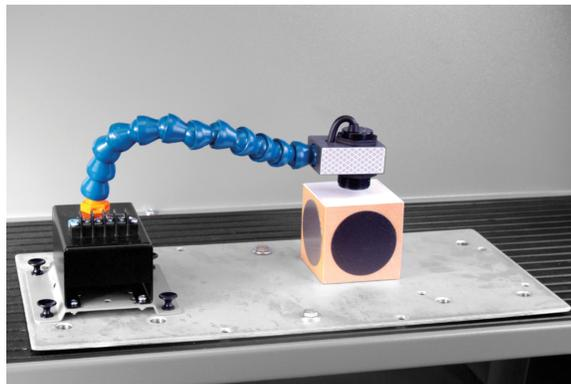

Figure 21. Circuit using the Capacitive Proximity Switch.
1. Set up the circuit shown in Figure 21.
2. Position the Reflective Block so the white plastic surface is placed at a distance of 10 mm (0.4 in) from the sensor sensing face, as shown in Figure 21.